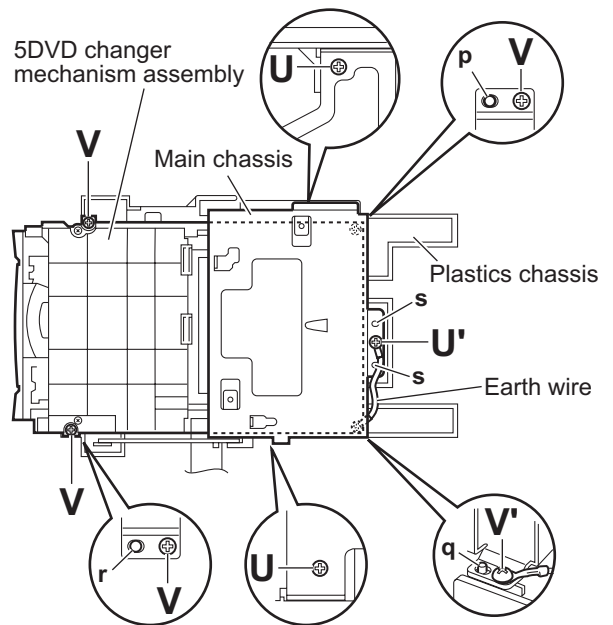

Fig.23
- (4) From the both and top sides of the 5DVD changer mechanism assembly, remove the two screws **U** and screw **U'** attaching the main chassis. (See Fig.23.)
- Align the projections **s** of the plastics chassis to the holes of the main chassis before attaching the screw **U'**. (See Fig.23.)
- When attaching the screw **U'**, attach the earth wire with it. (See Fig.23.)
- (5) Take out the main chassis.
- (6) From the top side of the 5DVD changer mechanism assembly, remove the three screws **V** and screw **V'** attaching the 5DVD changer mechanism assembly on the plastics chassis.
- When reassembling, align the projections (**p**, **q**, **r**) of the plastics chassis to the holes of the 5DVD changer mechanism assembly before attaching the screws **V** and **V'**. (See Fig.23.)
- When attaching the screw **V'**, attach the earth wire with it. (See Fig.23.)